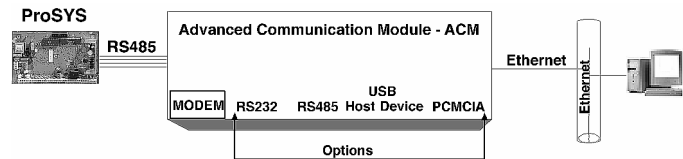

Figure 1: ACM Interfaces - Full Configuration
- ◆ ACM Full future configuration with interfaces is shown in Figure 1.